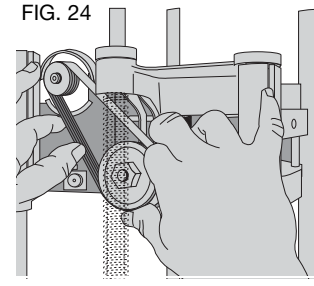

FIG. 25
3. If the thickness of the workpiece does not match the reading on the depth adjustment scale, loosen the two cross head screws (R) shown in Figure 25.